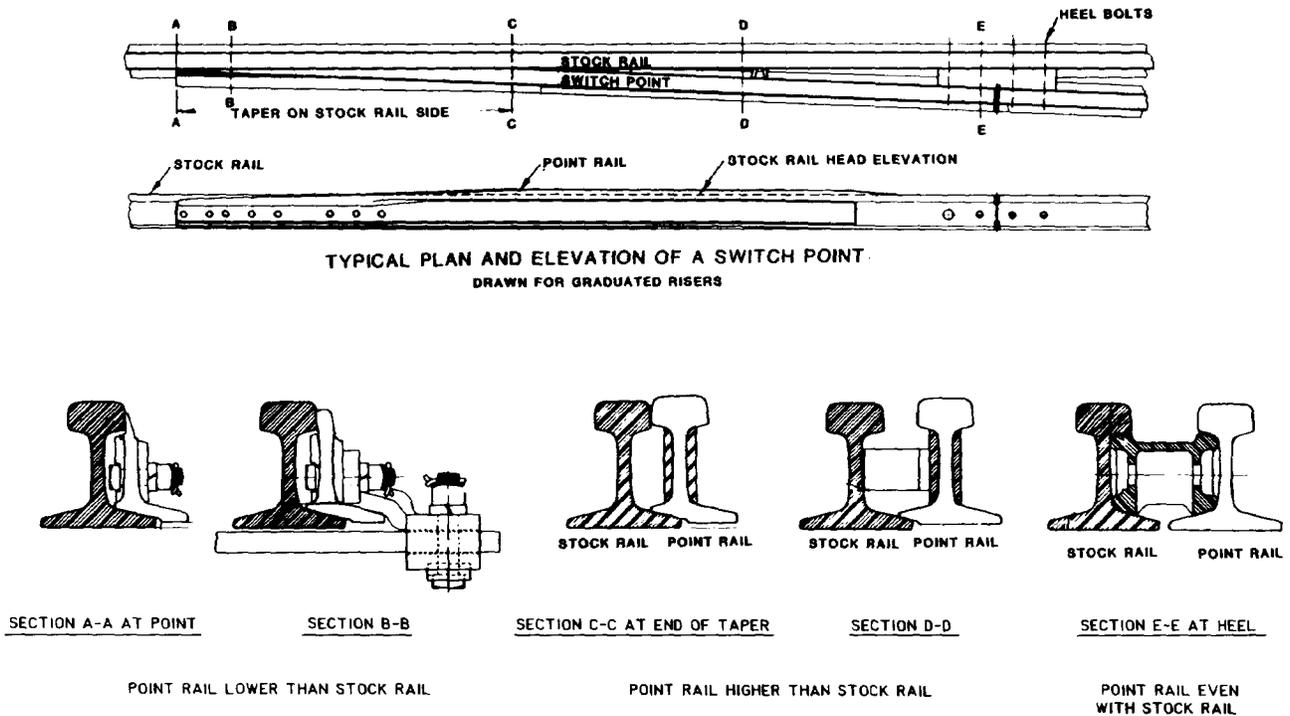

Figure 8-4. Switch point plan and elevation.
(4) Point of switch higher than stock rail. (See para 8-3d(1) and fig 8-4.)
(5) Point rail beyond taper lower than stock rail. (See para 8-3d(2) and fig 8-4.)
(6) Damaged or missing switch stand lever latches or switch point lock. (see para 83e)
(7) Insecure, loose, damaged, or improperly installed switch stand. (See para 8-3f and 8-2g)
(8) Loose, damaged, or missing jam nut at the switch stand end of the connecting rod. (See para 8-3g(3))
(9) Bent, damaged, loose, binding, or improperly installed connecting rod, switch rods, or switch clips. (See para 8-3g)
(10) Loose, damaged, or missing switch clip, switch rod, or connecting rod bolts. (See para 83h)
(11) Loose, damaged, or missing heel bolts; cracked or improper heel joint bars or heel filler. (See para 8-3i)
(12) Loose, damaged, or missing rail braces. (See para 8-3j)
(13) Loose, damaged, or missing slide plates; dirt and debris buildup on slide plates.
(14) Missing cotter keys on switch rod and switch clip bolts.
(15) Debris in flangeways. (See para 8-3k)
*d.* Figure 8-4 shows the proper elevation of the switch point and point rail with respect to the stock rail.
(1) If the top surface of the switch point is higher than the top of the stock rail, operations through the turnout shall not exceed 5 mph.
(2) If the point rail beyond the taper is lower than the stock rail, operations through the turnout shall not be permitted.